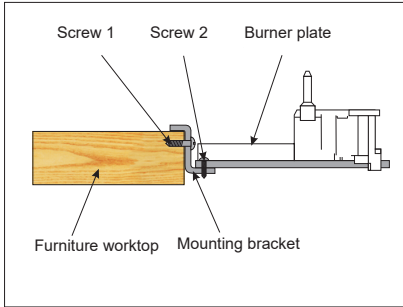
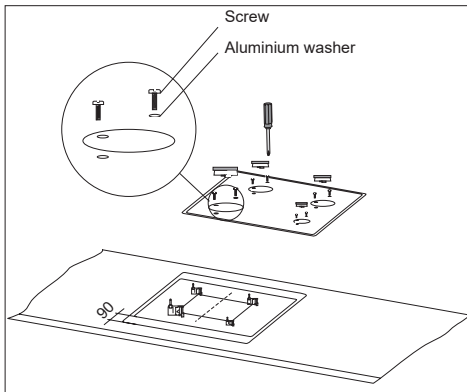
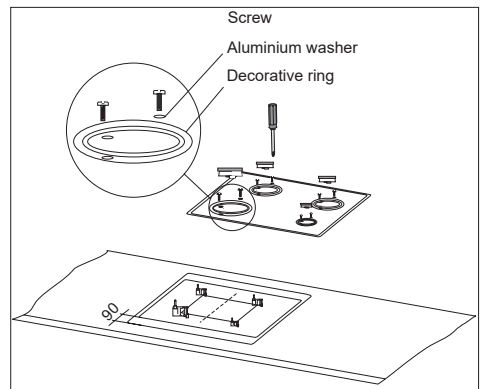

Fig. 3
Fig. 5
Fig. 6
3. Loosen the screws No. 2, Figure 3
6. Position the burner plate to achieve 90 mm distance (Fig. 5) and using screws No. 1 (Fig. 3) fix the burner plate in worktop opening.
8. Place cooking surface on the burner plate and fasten it to the burners using 8 screws with M-3 washer (Fig. 5).
6. Position the burner plate to achieve 90 mm distance (Fig. 6) and using 4 screws No. 1 (Fig. 3) fix the burner plate in worktop opening.